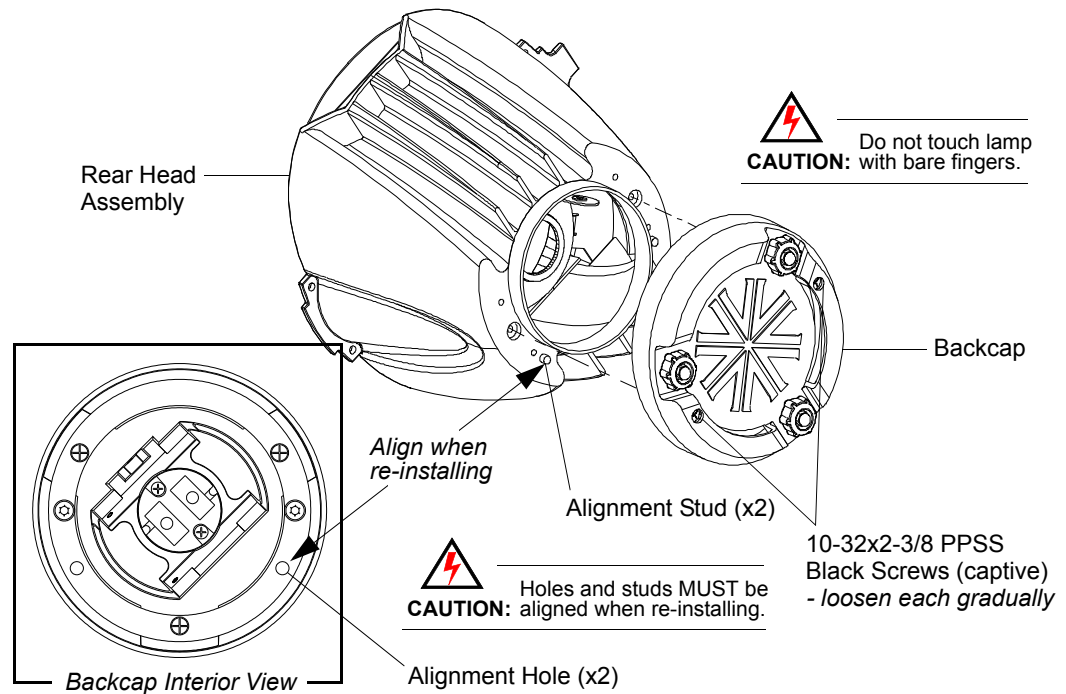

Figure 2-3: Removing Arc Backcap
Step 2. At backcap, gradually loosen two 10-32x2-3/8" PPSS black screws (Figure 2-3) a few turns at a time until backcap is free. (Screws must be alternately loosened to prevent one side from locking up.)
- Step 4. Re-install backcap, ensuring that alignment studs and holes are aligned (**Figure 2-3**).